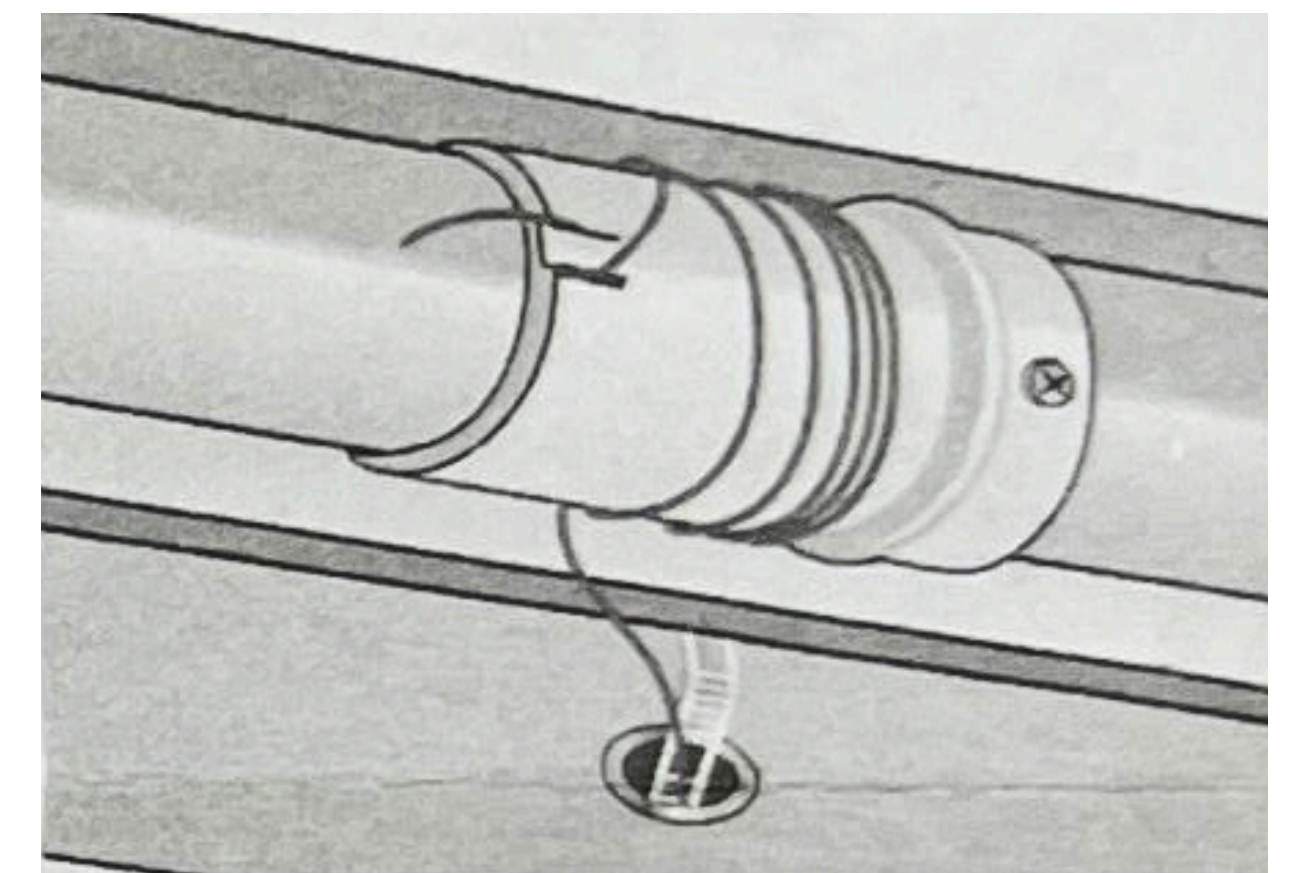

Figure 4: Motor Tube and Spool
1. Check how the cords are being wound onto the spools on the tube located on the shade head rail as the shade lifts and lowers. Make sure there are no snags and the cord is wrapping the same direction around each spool [Figure 4].